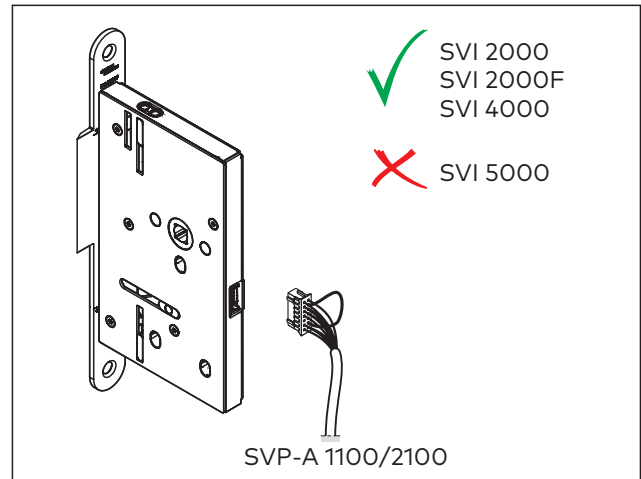

Fig. 38 Connect cable
4. Pull in the connecting cable SVP-A 1100/2100 and connect it to the lock (Abb. 38).